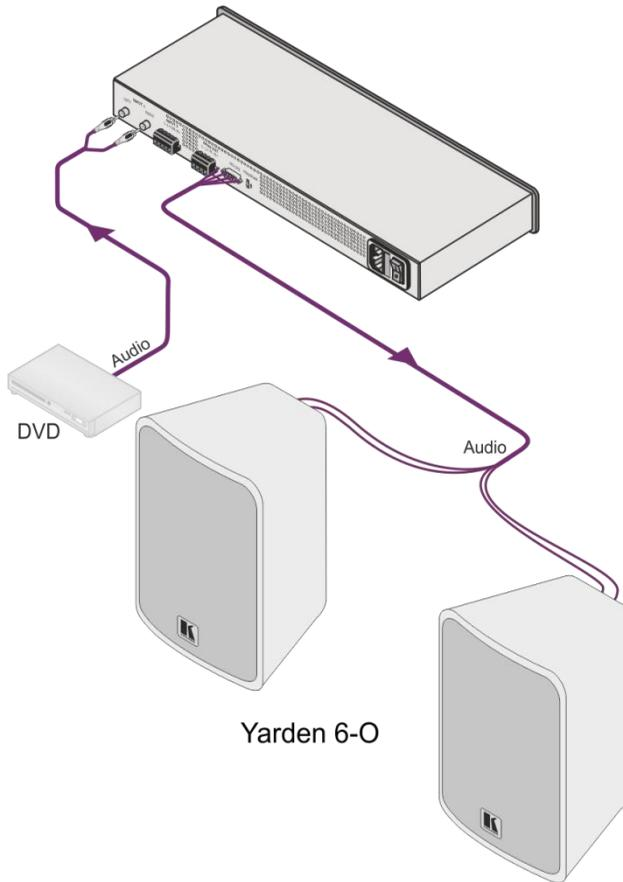

Figure 7: Connecting the Yarden 6-O
6. Repeat step 5 for the other speaker (see Figure 7).
You can connect the **Yarden 6-O** speakers to an amplifier, for example the Kramer **905xl** Power Amplifier/Mixer, as illustrated in Figure 7: